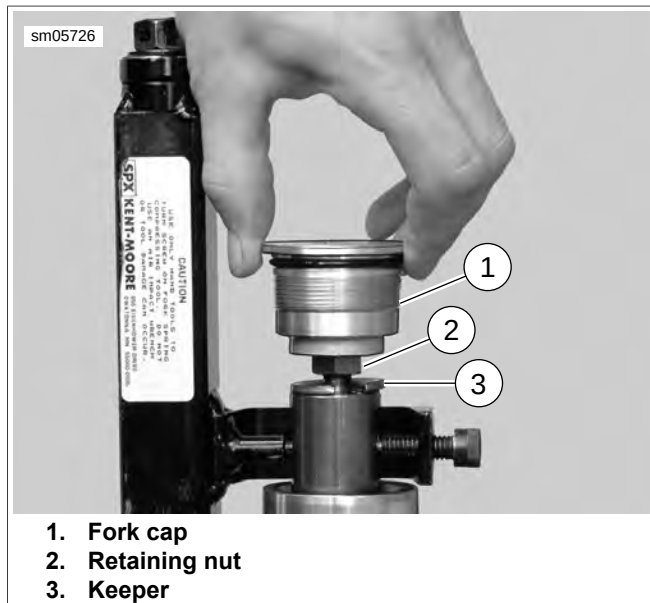

Figure 2-87. Remove Keeper
4. See Figure 2-87. Remove keeper and loosen retaining nut, and fork cap from cartridge assembly.